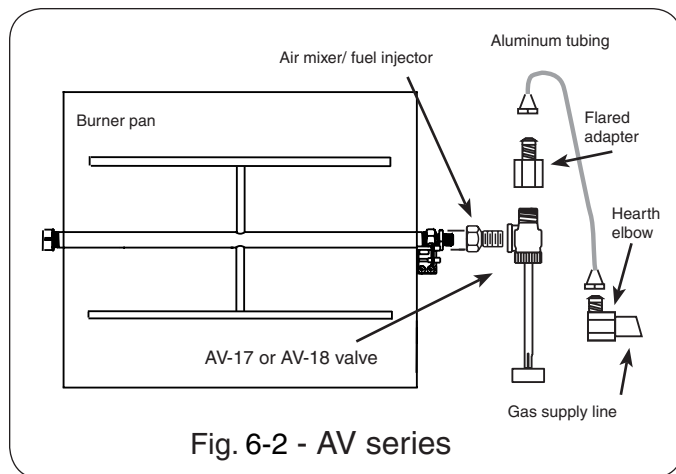

Fig. 6-2 - AV series
2. Installing the Real-Fyre® gas log set using a Peterson manual on/off system (AV series) (Fig. 6-2)